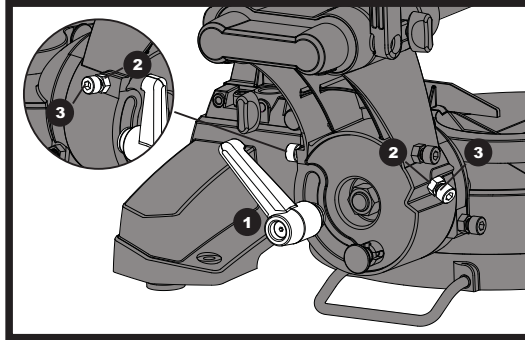

Fig 21
- 1) Loosen the bevel lock handle (1) and tilt the cutting head completely to the left.
- 3) If the blade is not at 45° to the mitre table, tilt the cutting arm to the right, loosen the locknut (2) on the bevel angle adjustment bolt (3) and use an allen key to adjust the stop bolt (3) depth in or out to increase or decrease the bevel angle.
- 6) Tighten bevel lock handle (1) and locknut (2) when alignment is achieved. (See fig. 21)